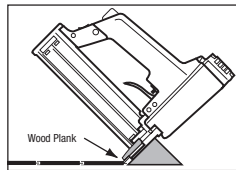

Figure 8
- Always use the correct stapler for the specific product being installed (see "Installation Applications"). Use a minimum 1-1/4" fastener for 9/16" products, 1"-2" (2.5-5 cm) from the ends spaced at 3"-4" (8-10 cm) intervals. Continue to Step 5. Set compressor at 70 PSI. If tongue damage occurs, lower air pressure (Figure 8).